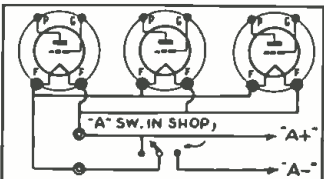

Fig. 7, above. Filament protection.
**TUBE PROTECTION.** A scheme to protect tube filaments from accidental overload of any kind is shown in Fig. 7. The S.P.D.T. switch should be mounted on the bench so that any set connected to the "A"-battery lines will be protected. The switch simultaneously opens the battery circuit, and shorts the "A" leads from the tubes, so that even if the "B"-battery leads accidentally get across the filament circuit, no harm can be done to the tubes.